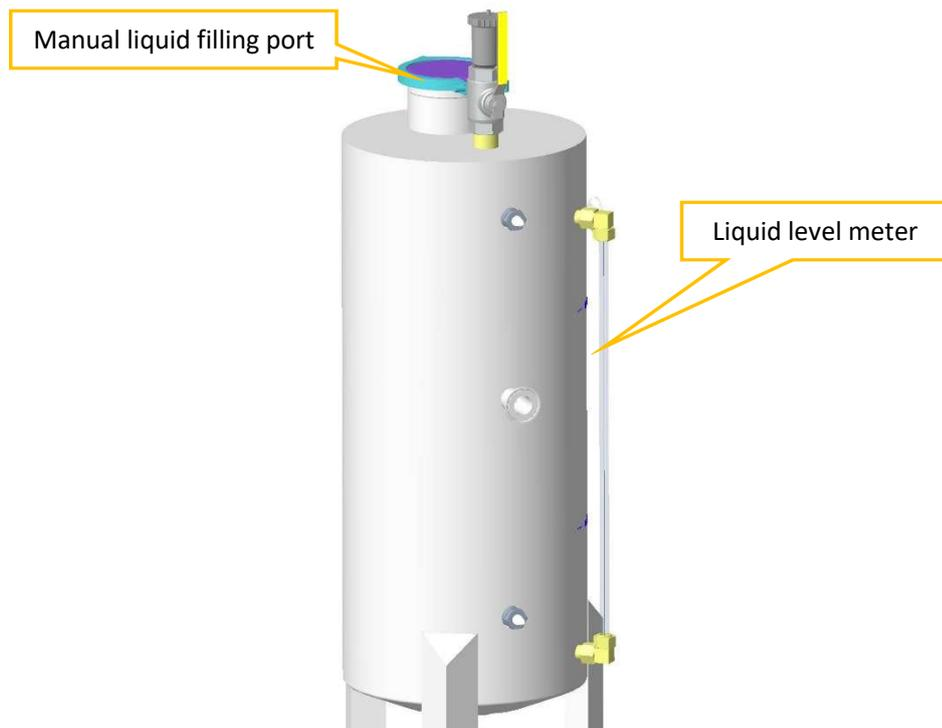

Figure 7-6 Pump station - liquid level meter
- 7) Then open NO.6 Ball Valve, close NO.7 Ball Valve, click on the refilling pump on the touch screen interface, and turn it on. Fill the water tank with coolant, and stop refilling coolant when the level gauge in the water tank reaches more than 2/3 (see Figure 7-6 for the location of the level gauge).